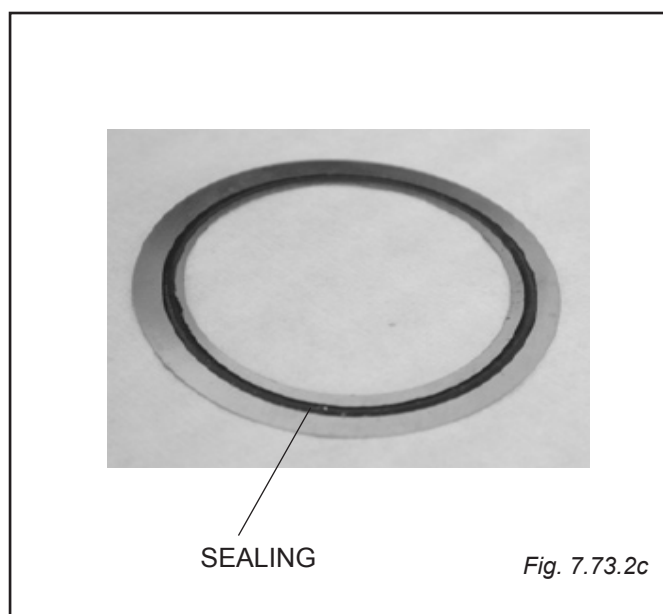

Fig. 7.73.2c
**THE USE OF LOCTITE IS BOUND ONLY TO THE USE OF METAL THICKNESSES WITHOUT ANY SEALING. IN THE NEW THICKNESS VERSION, THE USE OF LOCTITE IS NO LONGER NECESSARY AS IT IS ALREADY PROVIDED WITH A SEALING. (SEE FIG. 7.73.2C)**
(Fig. 7.73.2c)